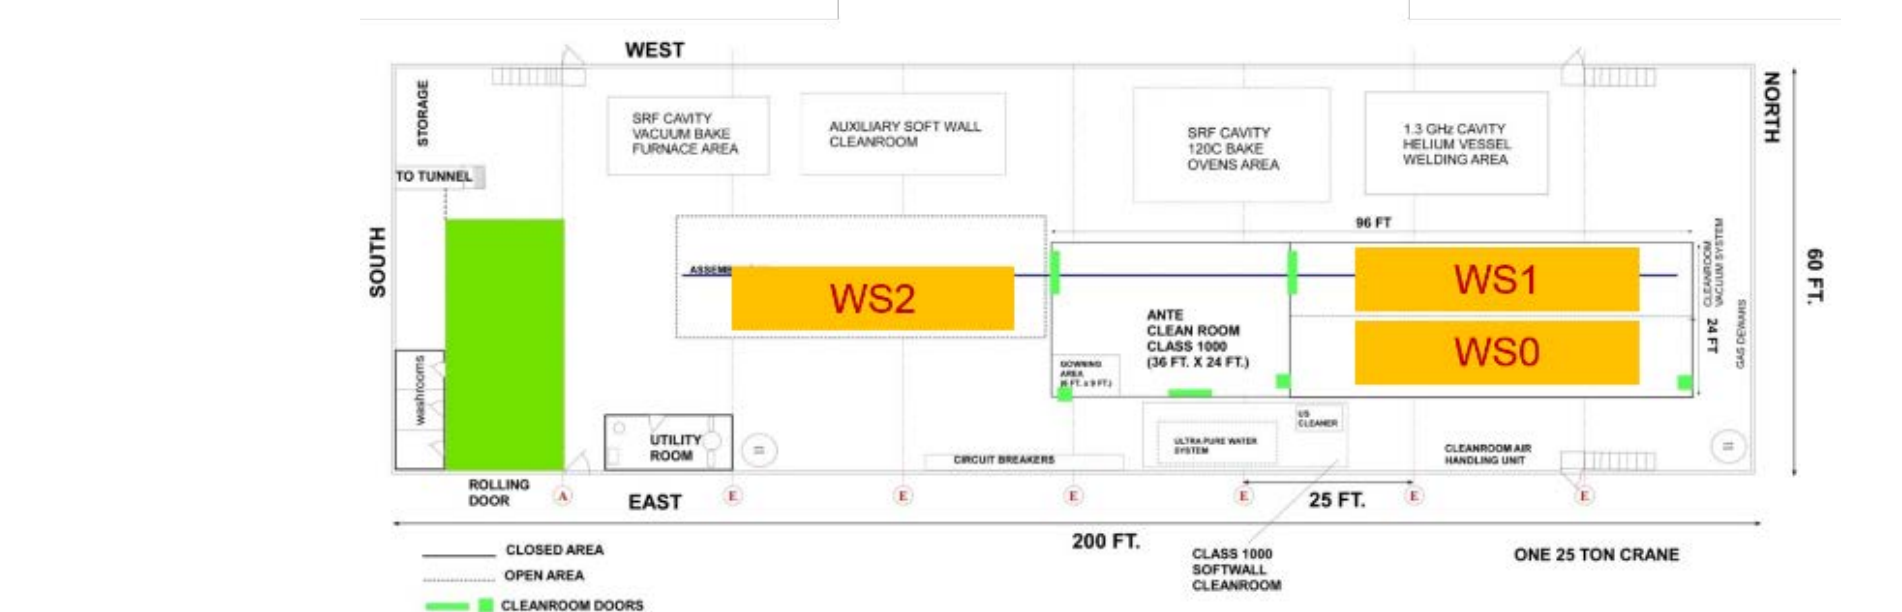
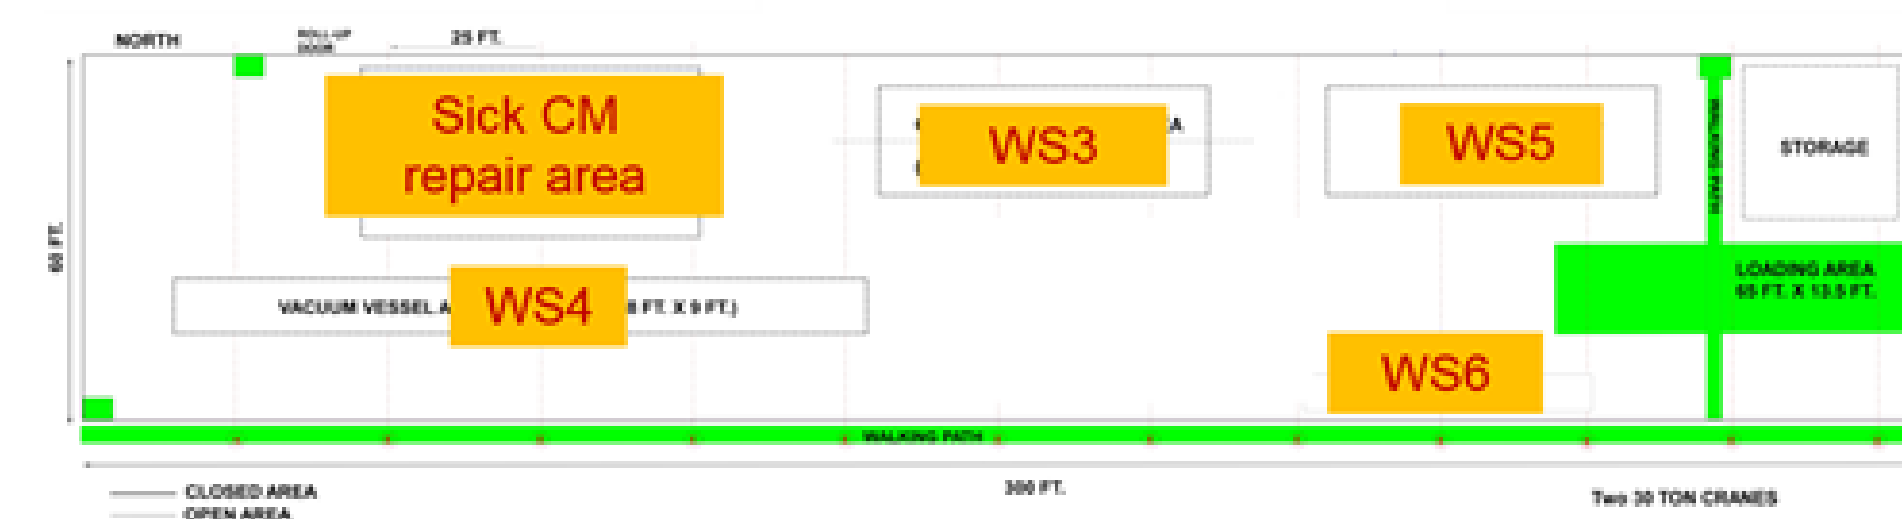

Figure 1: CAF-MP9 production floor
Figure 2: CAF-ICB production floor
The CAF consists of two assembly/production floors: CAF-MP9 and CAF-ICB. CAF-MP9 (see Fig. 1) houses the cleanroom which consists of a ~250 square meter cleanroom complex which has Class 10 (ISO 4), 100 (ISO 5) and 1000 (ISO 6) areas. There are two workstations (WS) setup in the cleanroom: WS0 is for coupler cold end assembly to the qualified dressed cavity and WS1 is for cavity string assembly. After the string is assembled, it is rolled to WS2 for cold mass assembly phase-I. CAF-ICB (see Fig. 2) houses the cold mass assembly work stations WS3, WS4, WS5 and WS6, i.e., all remaining assembly steps and preparation for shipment.